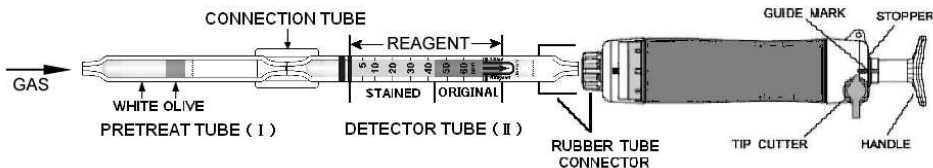

Fig.1
- ① Break both ends of the pretreat tube ( I ) and detector tube ( II ), and connect each end of the pretreat tube and detector tube with connecting tube as shown in Fig.1.
- ② Insert the detector tube into the aspirating pump securely as shown in Fig.1. (Arrow mark shall point to the pump.)
- ③ Align the guide marks on the shaft and stopper of the aspirating pump.
- ④ Pull the pump handle at a full stroke until it locks and wait for 2 minutes or until the completion of sampling is confirmed with the flow indicator of the pump. (See descriptions about the flow indicator in the instruction manual of the pump.)
- ⑤ On completion of sampling, read the scale at the maximum point of the stained layer.